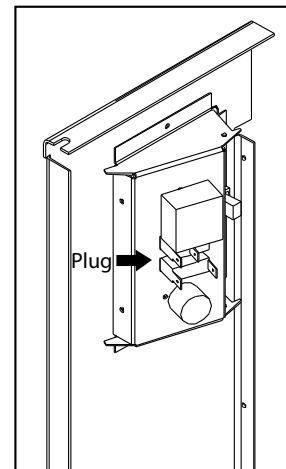

Figure 34: Control Panel Back.
3. Plug the wiring harness into the control panel (see Figure 34).